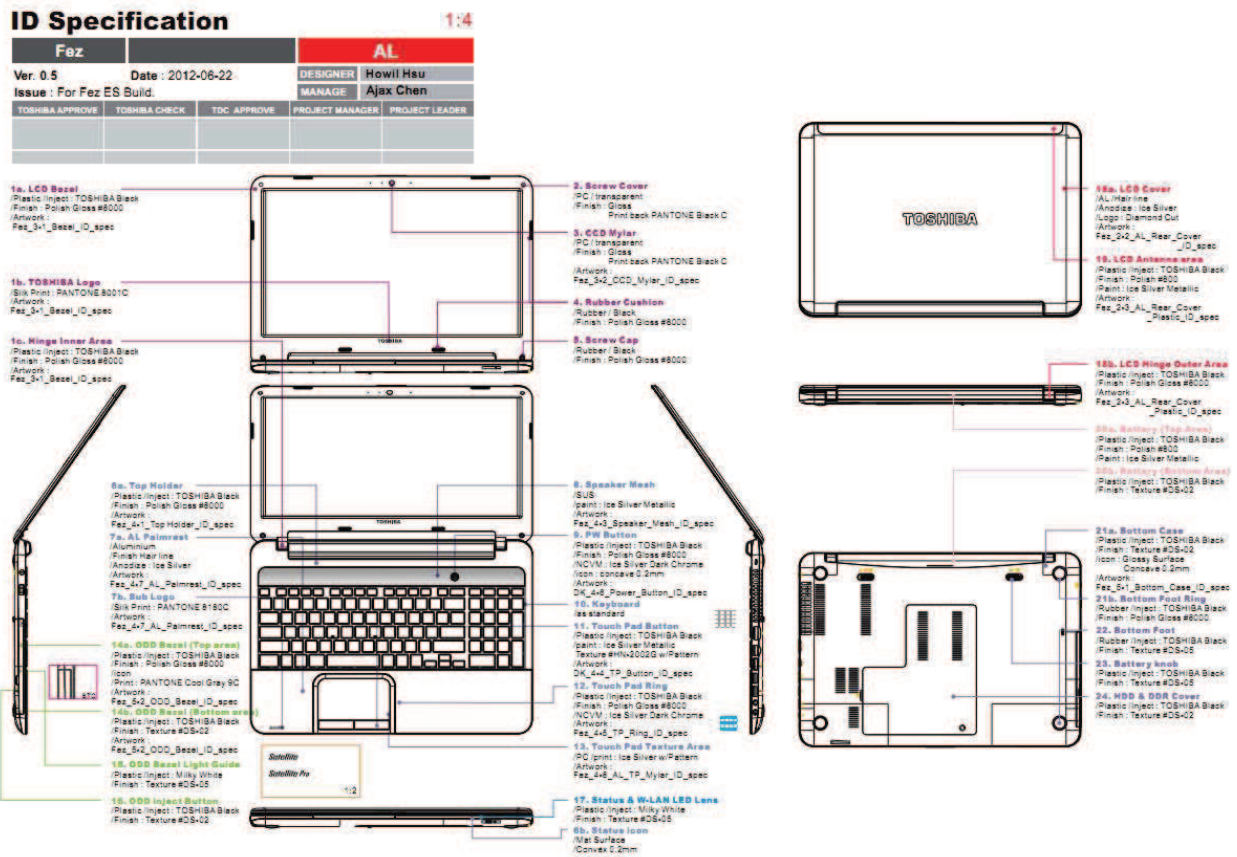

Figure 1-1 ID Parts Description Placement
| Figure 1-1 ID Parts Description Placement..... | 8 |
□ Figures 1-1/1-2/1-3 and 1-4 show the computer and its system unit configuration, respectively.